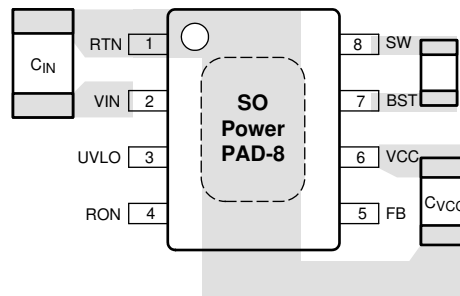

图 10-1. Placement of Bypass Capacitors
1. C_{IN} : The loop consisting of input capacitor (C_{IN}), V_{IN} pin, and RTN pin carries switching currents. Therefore, the input capacitor must be placed close to the IC, directly across V_{IN} and RTN pins, and the connections to these two pins must be direct to minimize the loop area. In general, it is not possible to accommodate all of input capacitance near the IC. A good practice is to use a 0.1- μ F or 0.47- μ F capacitor directly across the V_{IN} and RTN pins close to the IC, and the remaining bulk capacitor as close as possible (see Figure 10-1).
2. C_{VCC} and C_{BST} : The V_{CC} and bootstrap (BST) bypass capacitors supply switching currents to the high and low side gate drivers. These two capacitors must also be placed as close to the IC as possible, and the connecting trace length and loop area should be minimized (see Figure 10-1).